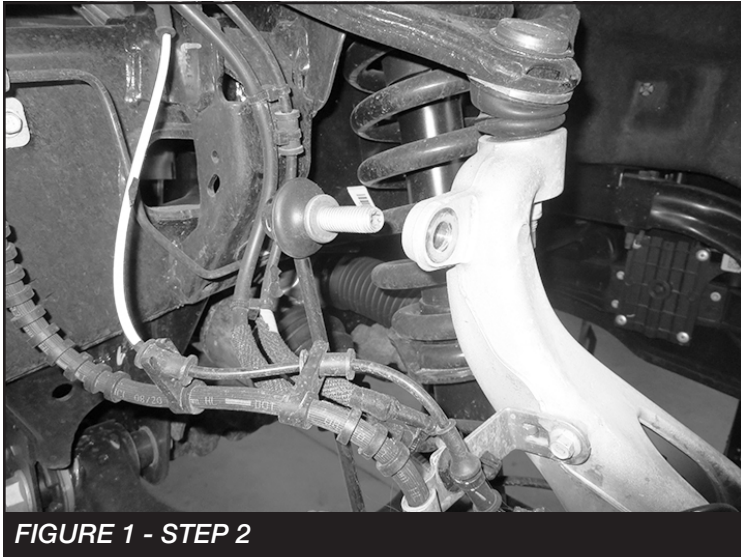

FIGURE 1 - STEP 2
2. Disconnect the sway bar link from the knuckle. Save hardware. **SEE FIGURE 1**